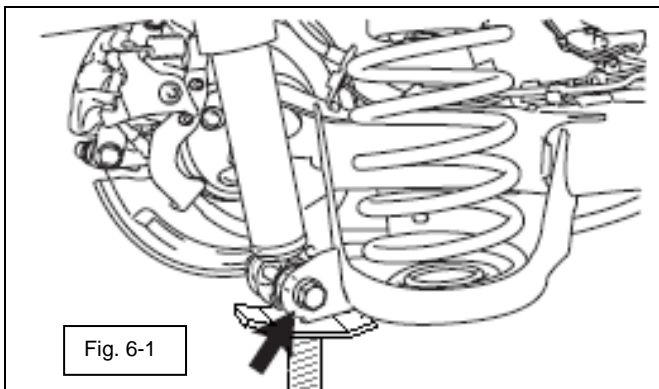

Fig. 6-1
(1) Support shock mount with a tall jack stand.
(2) Loosen the bolt **NOT** the nut. (Fig. 6-1)
(3) Only work on one side of the vehicle at a time to prevent the axle beam from swinging too low putting unwanted tension on the beam axle bushings.